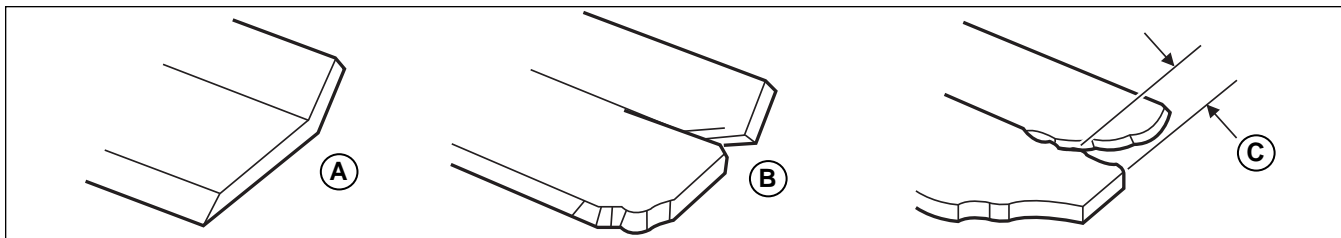

Figure 27. Inspecting the Mower Blade Air Lifts
- B.) The air lifts are excessively eroded (B & C, Figure 27) and the notch (C) is .25" (6,35 mm) deep or greater.